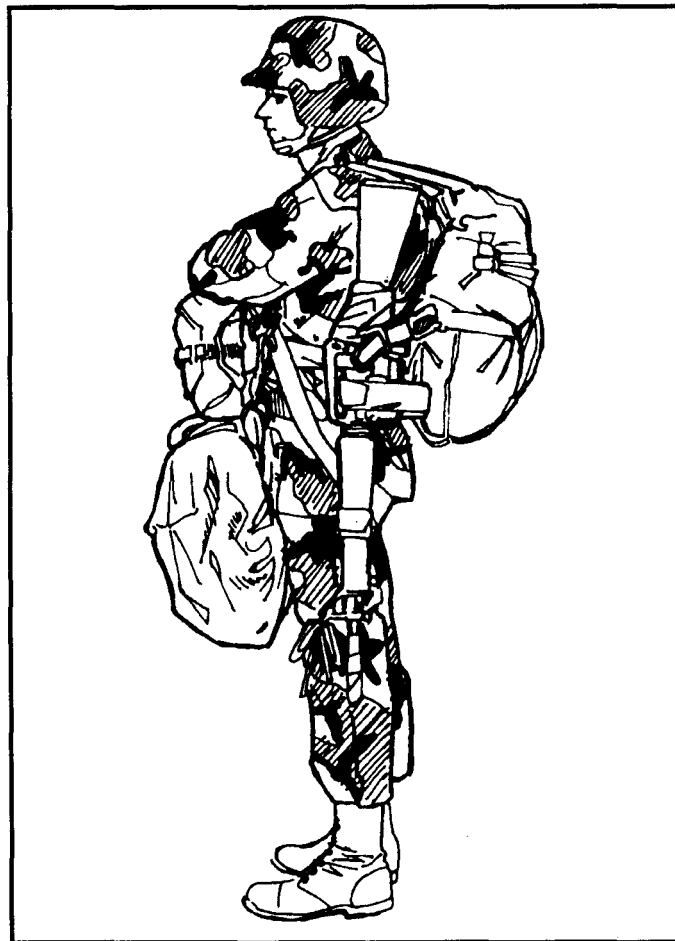

Figure 12-16. Rifle positioned with muzzle down.
c. Sling the weapon over the left shoulder, with the muzzle down, and rotate it so that the pistol grip is facing the (parachutist's) rear (Figure 12-16). Place the sling from the lower keeper (stock) on the outside of the stock and over the left shoulder. Then run it under the chest strap of the main lift web. Thread the waistband through the carrying handle and into the metal adjuster on the waistband adjuster panel. Tighten the waistband securely so the weapon lies snugly against the parachutist's side.